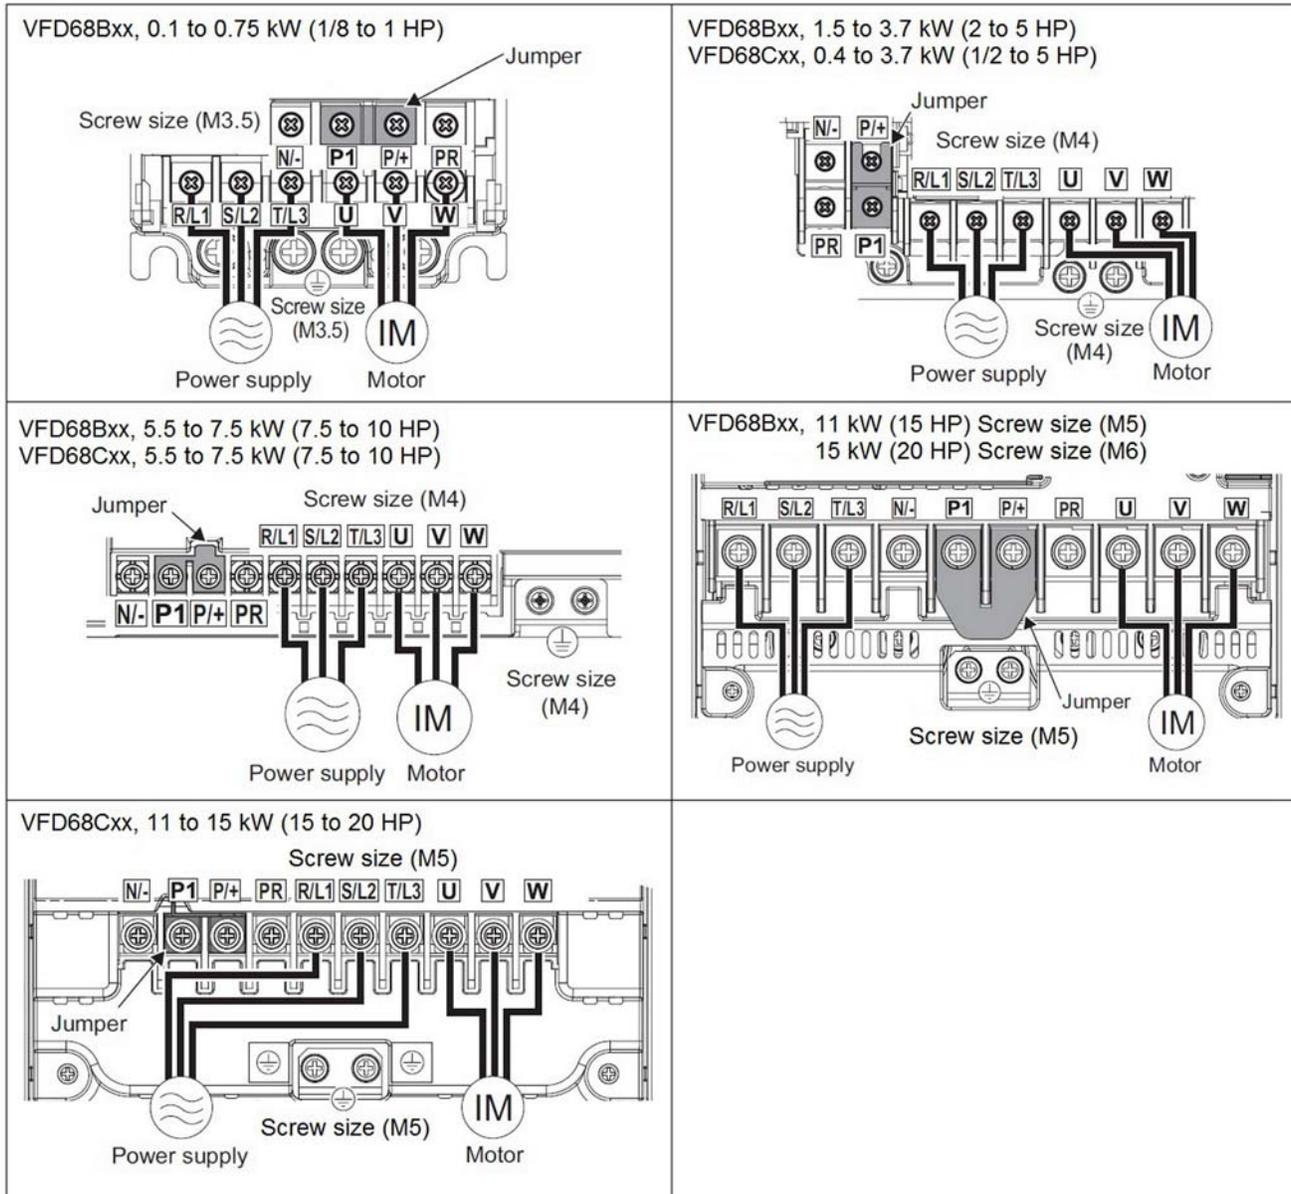

Figure 15: High-Voltage Terminal Block Wiring
3. For supplied three-phase power, connect the high-voltage power supply to terminals R/L1, S/L2, and T/L3 on the drive (Figure 15).
For supplied single-phase power, connect the high-voltage power supply to terminals L1 and L3 (Figure 15).
4. Connect the motor wiring to high-voltage output terminals U, V, and W on the drive (Figure 15).